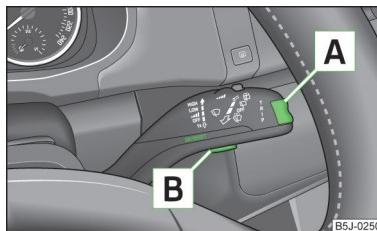

Fig. 22
Switch memories using button **B** » Fig. 22 on page 30 on the windscreen wiper stalk.
The Toggle button for selecting menu items **[A]** » Fig. 22 and button **[B]** are found on the wiper stalk.
► Briefly press the top or bottom of rocker switch **[A]** » Fig. 22. This opens the individual menu items in the multifunction display one after the other.
► Press button **[B]** » Fig. 22.
► Press and hold button **[B]** » Fig. 22.
- › Press button  » Fig. 22 on page 30 to select the **Warning at (MAXI DOT display)** or  (segment display) menu item.